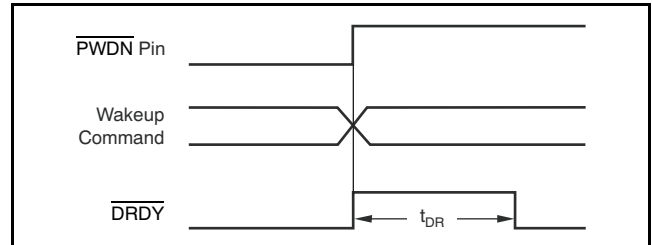

Figure 41. $\overline{\text{PWDN}}$ Pin and Wake-Up Command Timing (Table 13 shows t_{DR})
In power-down, note that the device outputs remain active and the device inputs must not float. When the Standby command is sent, the SPI port and the configuration registers are kept active. Figure 41 and Table 13 show the timing.
(1) See Figure 41 and Table 13 for time to new data.